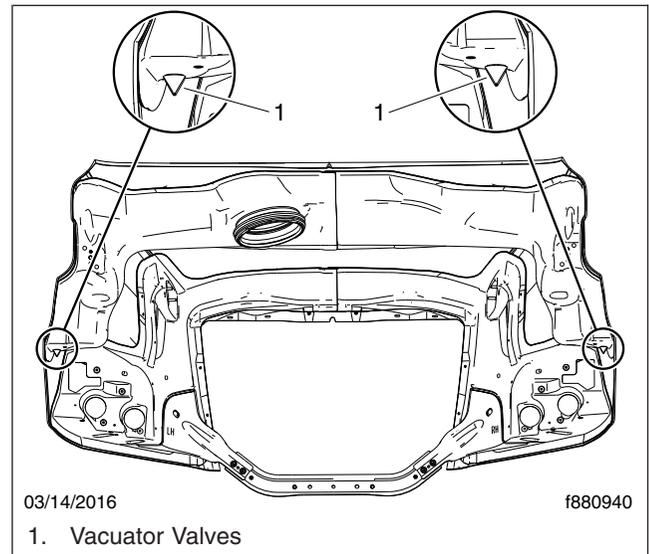

Fig. 25.11, Hood Vacuator Valves (hood interior shown)
- 3.1 Inspect the vacuator valve(s) installed on the hood interior and air cleaner. Make sure the lips of each valve are undamaged and pliable, free of debris, and remain closed during inspection. See **Fig. 25.11**.